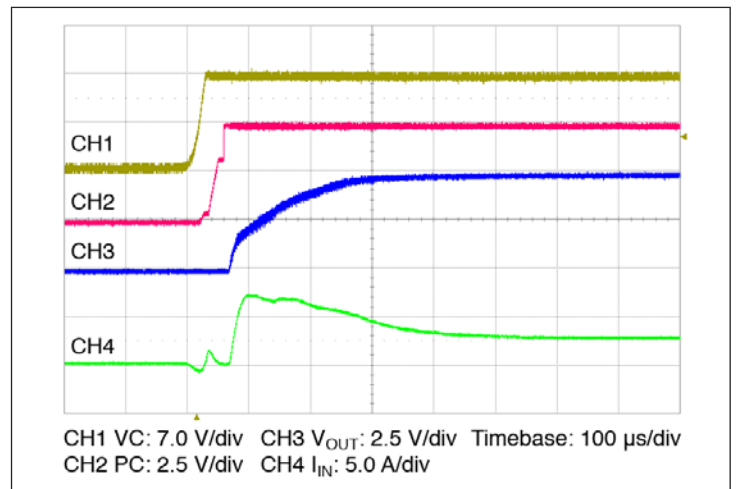

Figure 10 – Start up from application of VC;  $V_{IN}$  pre-applied
- **Stand Alone Operation (VC applied after  $V_{IN}$ ):** In this case the VTM output will begin to rise upon the application of the VC voltage (See Figure 10). The output rate of rise will vary depending on the amount of output capacitance in order to limit the inrush current. In this mode of operation, the maximum output capacitance is 1,000  $\mu$ F due to limitations of the inrush limiting circuitry.